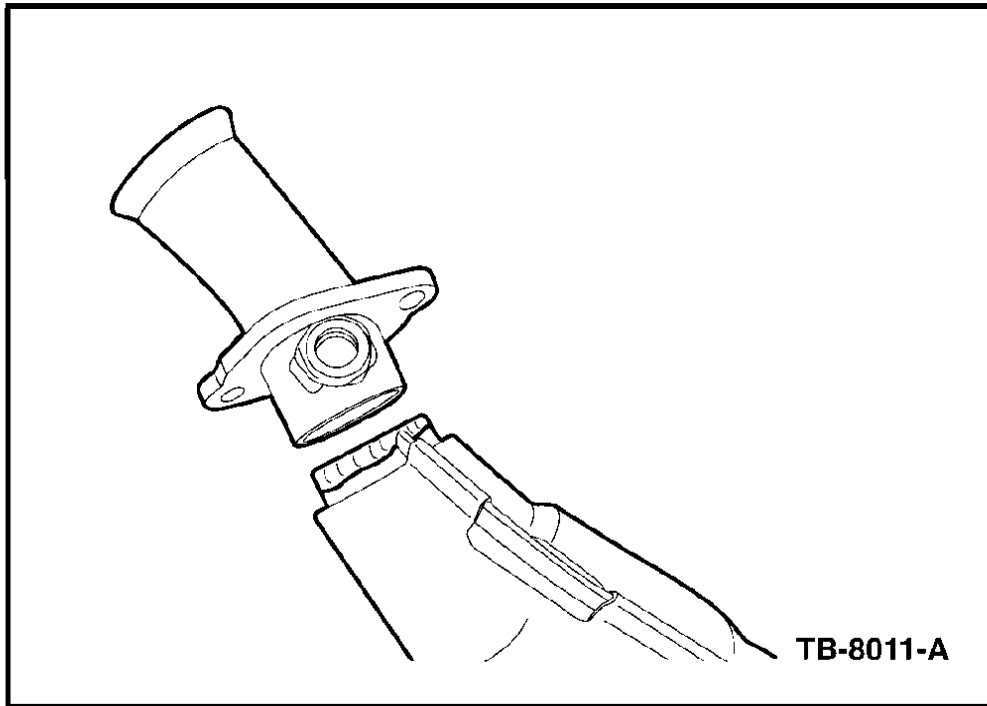

Figure 6
8. Slide the revised inlet tube into the catalyst shell. Turn it so the oxygen sensor aligns with the crimp in the catalyst shell (Figure 6).